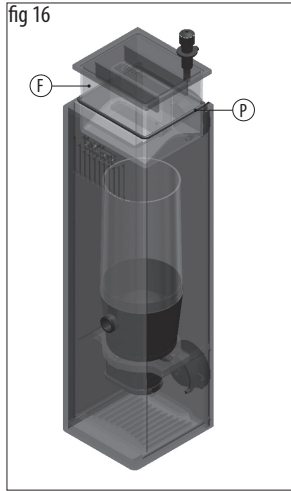

fig 17
- Apply the magnet (R) + suction cups to the clips (S) on the back panel of the skimmer (D)
- Insert the back panel (D) in the slot on the back part of the skimmer (A) to a complete stop.
- Place the o-ring (P) on the collection cup (F) of the skimmer.
- Position and block the air intake tube and the electrical cable on the suction cups (S). Place the collection cup at max height (o-ring should be on the lowest position possible) and with this position measure and cut the air tube (Q) a few cm above the lid. Positioning the air control (T) and connect the air tube fig. 17